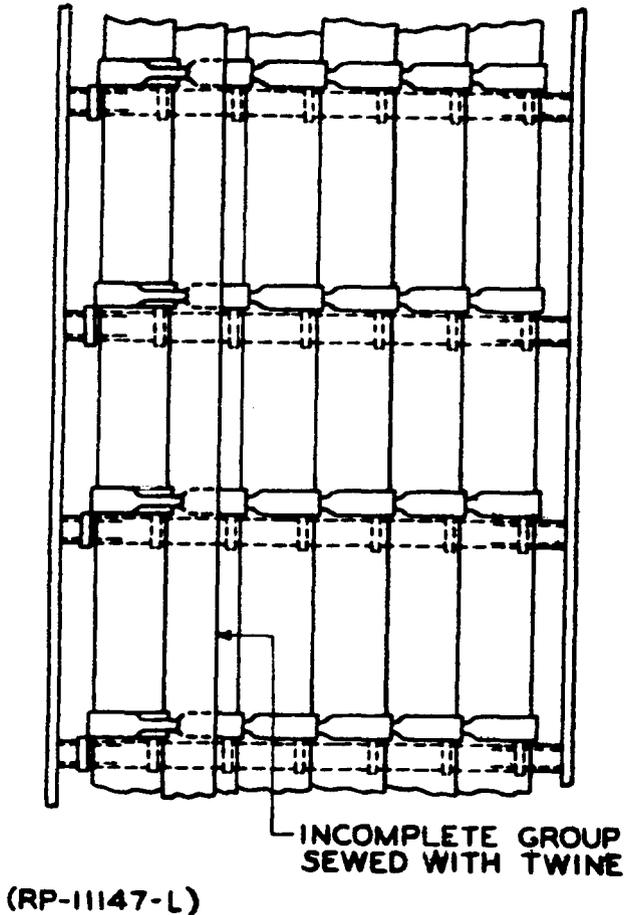

FIG. 3 INVERTED HORIZONTAL CABLE RUN (PARS. 3.22, 3.231)
3.22 Inverted horizontal cable runs should be clipped as shown in Figure 3.
3.231 Secure incomplete groups, except those in the bottom layer, with approved twine, R-2916 as shown in Figure 3. Clip these groups when sufficient cables are added to fill a clip.